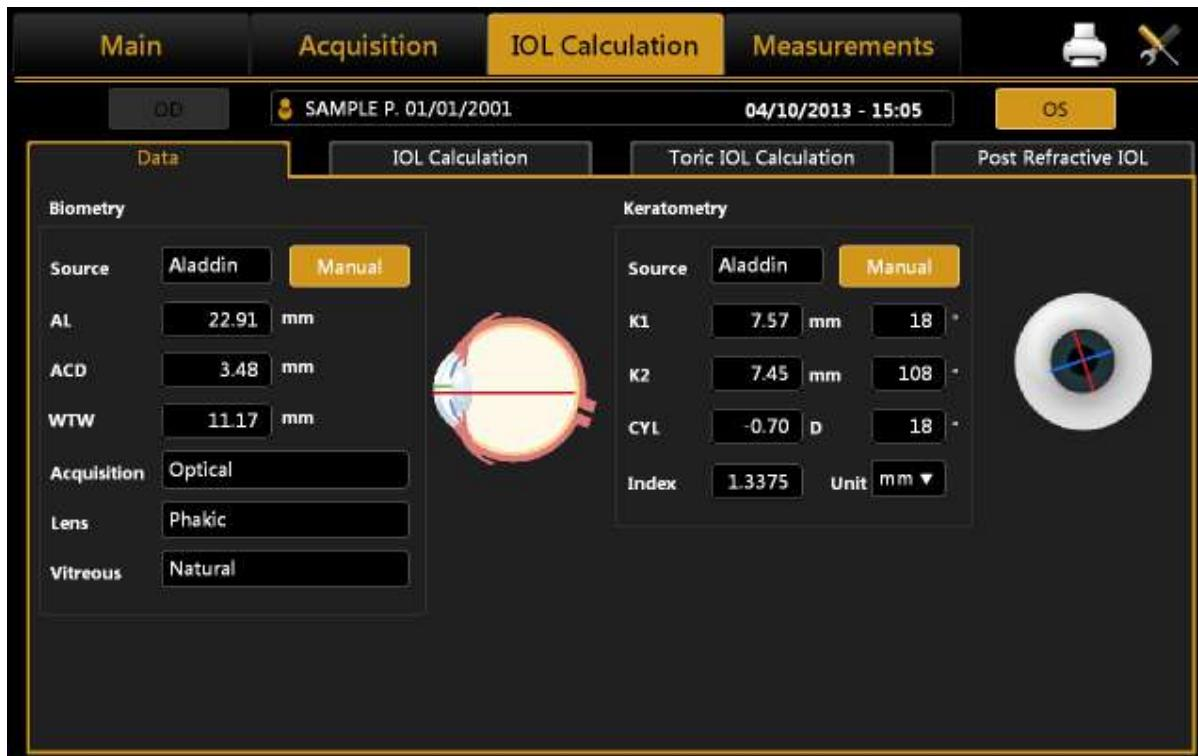
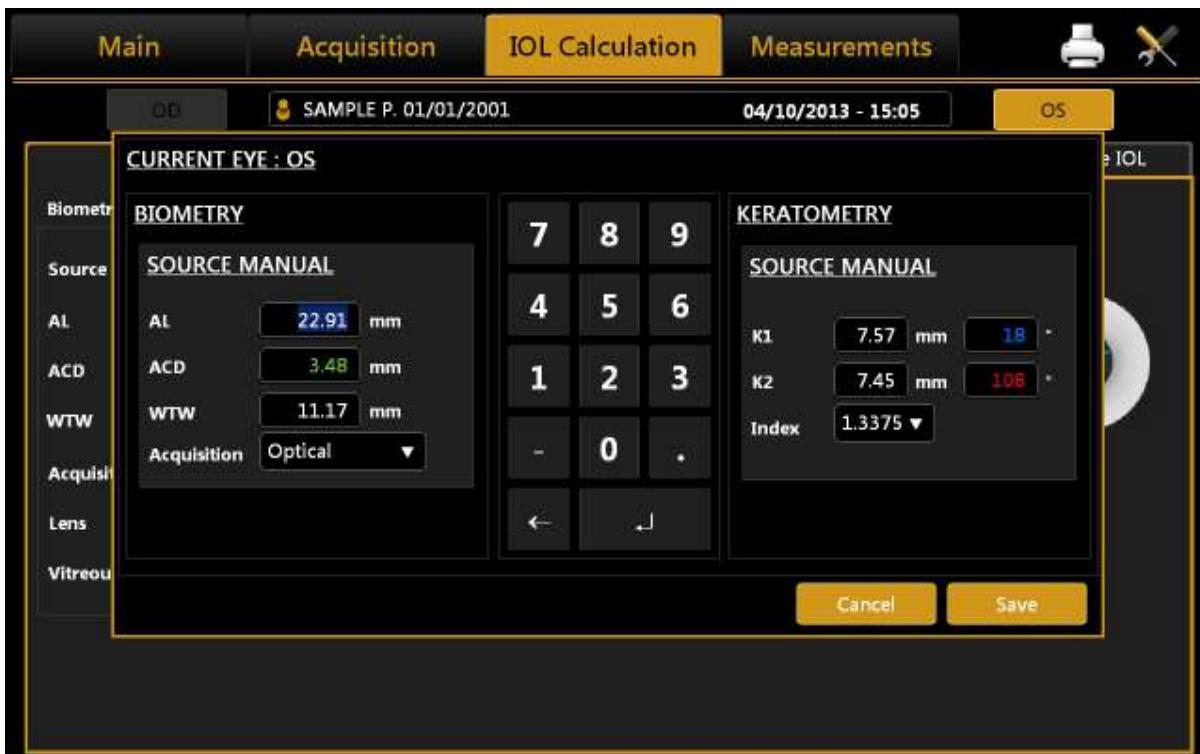

Figure 46
Figure 48
The screen displayed for the “Data” tab is as shown in Figure 46. As you can see, it has two sections:
From the “Source” field (present in both the Biometry and Keratometry sections, Figure 46), you can choose to use the measurements of the “Aladdin” instrument as source, or to enter them manually by pressing the “Manual” button. In this case, a panel opens (Figure 48) where you can enter the data manually using the numeric keypad.
In Figure 48 (Manual Keratometry tab), you can enter values both in Diopters or Millimeters. The values will be automatically recognized according to a specific range. This range goes from 6.75mm to 9.64mm, (from 35Diopters to 50Diopters). Also every mm/D conversion from now on will be performed on the basis of the current index in this section.
In Figure 48 you can manually enter biometry data; knowing that an external instrument does not always work in Optical mode, you can also select acoustic measurement mode.
In addition to choosing the “**Target**”, you need to specify also the “**Surgical Induced Astigmatism (SIA)**” and “**Incision Location (IL)**”. The former identify the astigmatism (in diopters) induced by the incision while the latter identify the surgical incision axis. After having selected the toric IOL model and one of the available formulas, a values table from which to choose the **Spherical Equivalent Power** is obtained. Once you choose a lens, pressing “**Next**” at the bottom right, you enter in the second-step of toric IOL calculation (Figure 48).